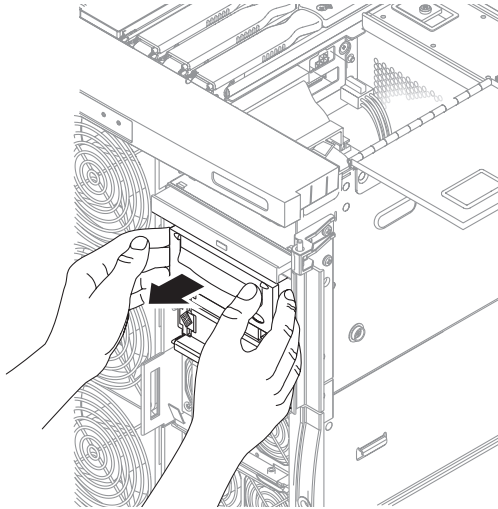

FIGURE 6-8 Sliding the Removable Media Module Out a Short Distance
12. Grasp the metal blade located at the front. Remove the removable media module a short distance from the system so that you can reach the connectors (FIGURE 6-8).
3. Insert the removable media module partially into the system (FIGURE 6-8).